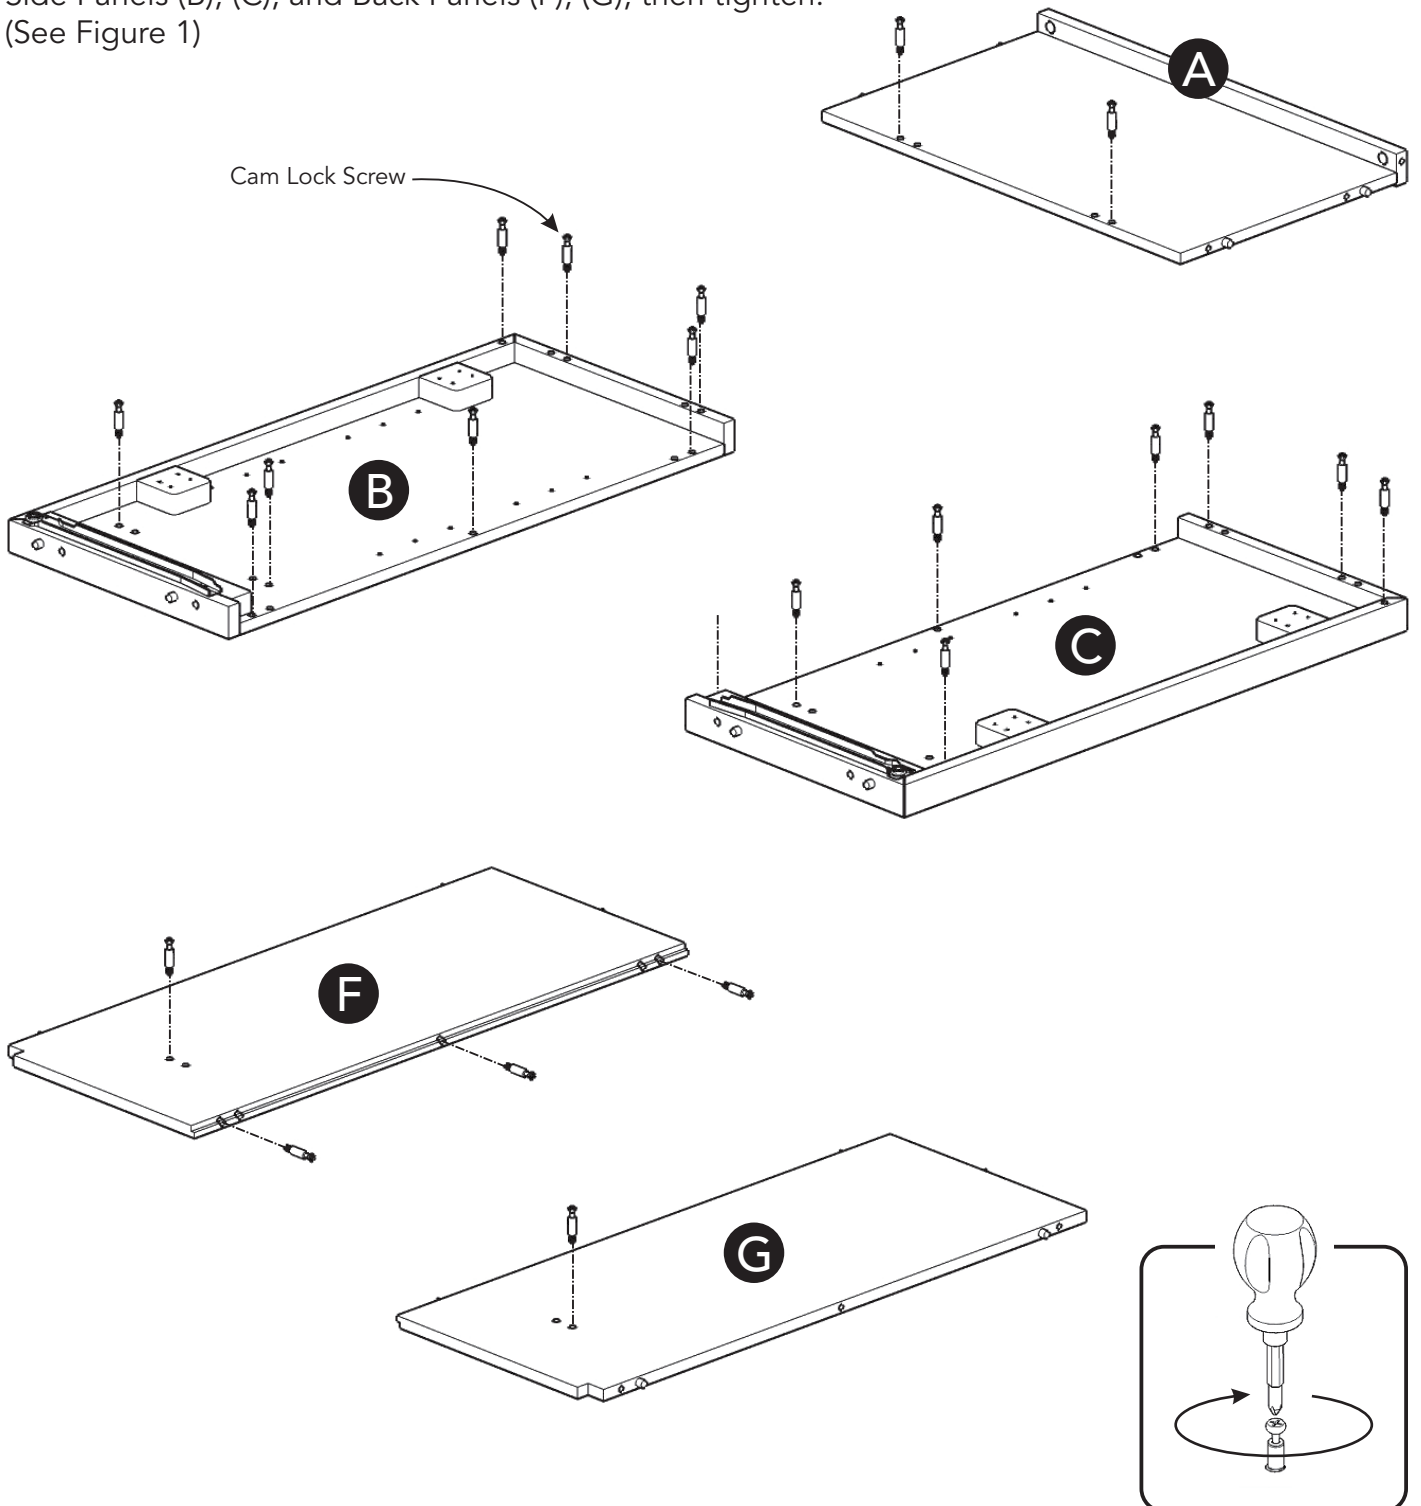

Figure 1
Insert Cam Lock Screws into pre-drilled holes in Top (A), Side Panels (B), (C), and Back Panels (F), (G), then tighten. (See Figure 1)